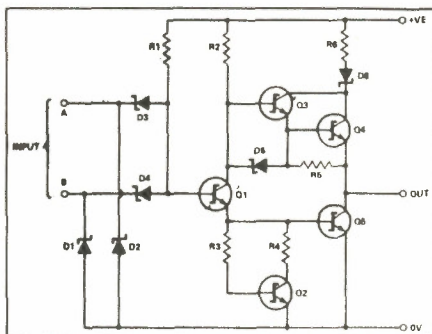

Fig. 15. Circuit for a NAND gate using Schottky diodes.
14) will prevent such saturation. When the collector voltage reaches a level which is about 0V2 lower than the base voltage, the Schottky diode will conduct, connecting the base. By avoiding saturation in this way, the transistor can be made to switch very much more rapidly at the minor expense of having a collector voltage which does not reach quite so low as that of a standard TTL stage. Fig. 15 shows the internal circuitry of a typical LS type of gate circuit in which the presence of Schottky diodes is indicated by the